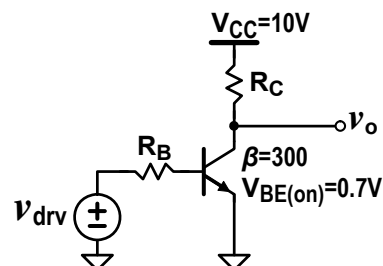

Figure 4. Switching circuit
4. For the circuit given in Figure 4, find the values of R_C and R_B , so that $I_{Csat} = 2 \text{ mA}$ and v_O changes between 10 V and 0 V while v_{drv} is a 1 kHz square wave signal switching between 0 V and 10 V.
4.a) Setup the circuit in Figure 4 using the R_B and R_C values previously calculated in the preliminary work. Observe and plot V_O (Vp-p) versus V_{drv} (Vpeak) for different frequency and amplitude settings of input signal. Choose a range of V_{drv} values to cover the minimum and maximum possible V_O amplitudes at **10 kHz** in your measurements. Use two more frequency settings where the V_O amplitude decreases by **20 %** and **50 %** at the maximum V_{drv} value used at **10 kHz**.